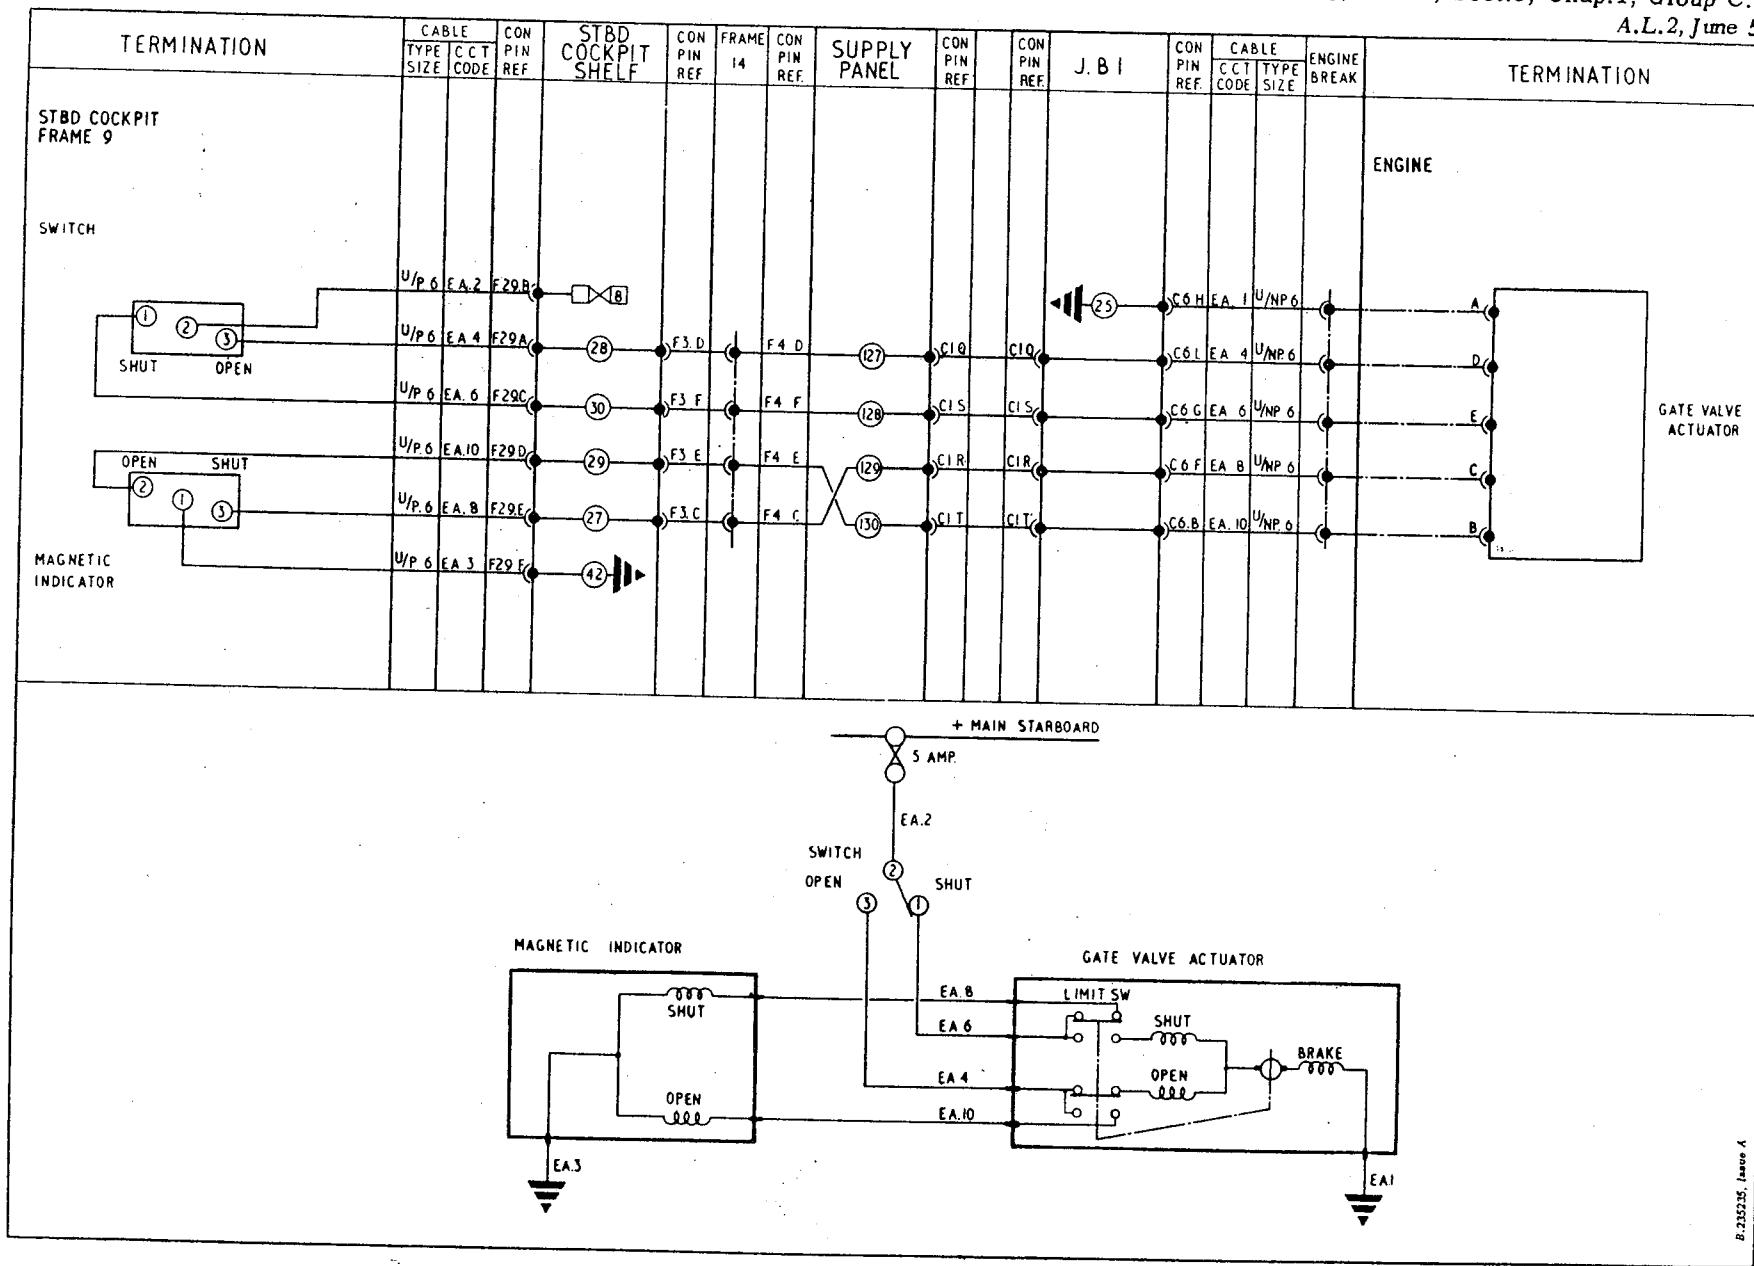

Fig. 1. Engine anti-icing (routing and theoretical)
3. The diagram of the circuit (fig. 1) shows conditions when the control switch is in the SHUT position. The gate valve actuator has operated to shut the valve. The actuator shut limit switch contacts have changed over to break the supply to the actuator and complete the supply to the 'shut' solenoid of the magnetic indicator to indicate valve SHUT. When the control switch is set to OPEN, both solenoids of the magnetic indicator are de-energized and current is fed from the